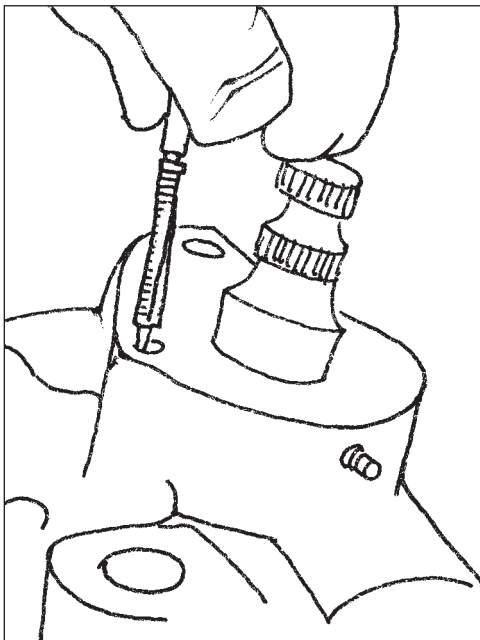

Figure 61
1. With a small screwdriver, remove the bearing cap plunger (Figure 61).